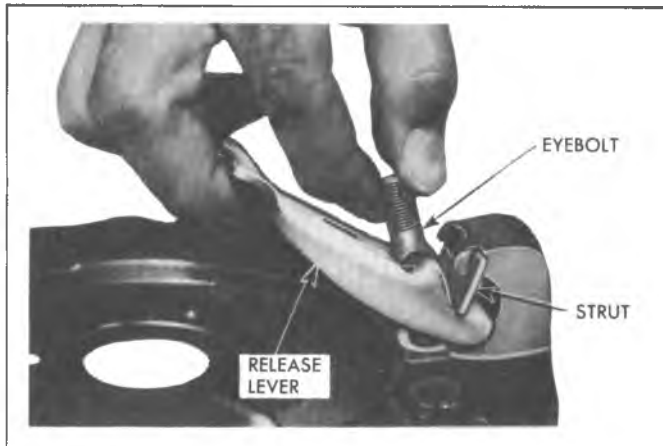

Fig. 5E--Removing Levers (Step 2)
5. Lift strut over ridge on end of lever, (fig. 5E).
4. Insert lower end of eyebolt in hole in pressure plate. The short end of the lever will then be under the hook of the pressure plate and near the strut, (fig. 5E).